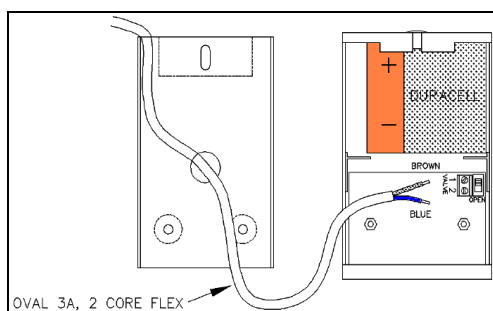

Fig 3 (battery powered model)
5. Connect 2-core cable between the solenoid valve connector and the terminals on the circuit board in the Control Box. Ensure that the **brown wire is connected to terminal 1** and the **blue wire to terminal 2**, both in the solenoid connector and on the circuit board. Leave a small loop inside the control box so that the lid can be detached from the mounting plate. Alternatively, the cable can be fed through the top cable gland. (See figs 3 (battery) and 4 (mains) below).